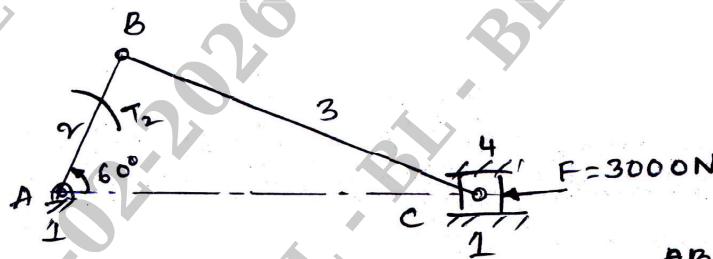

Fig.Q3(b)
- b. In Fig.Q3(b) a slider crank mechanism is shown, the values of forces applied on slider 4 is 3000 N. Determine the forces on various links. Also calculate the driving torque T_2 .